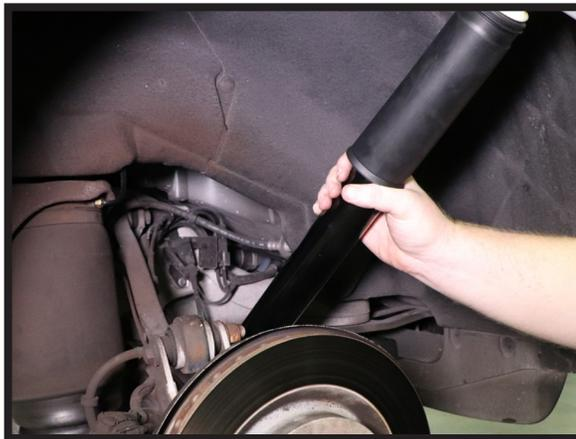

FIGURE 5
8. REMOVE THE SHOCK FROM VEHICLE. (FIGURE 5)